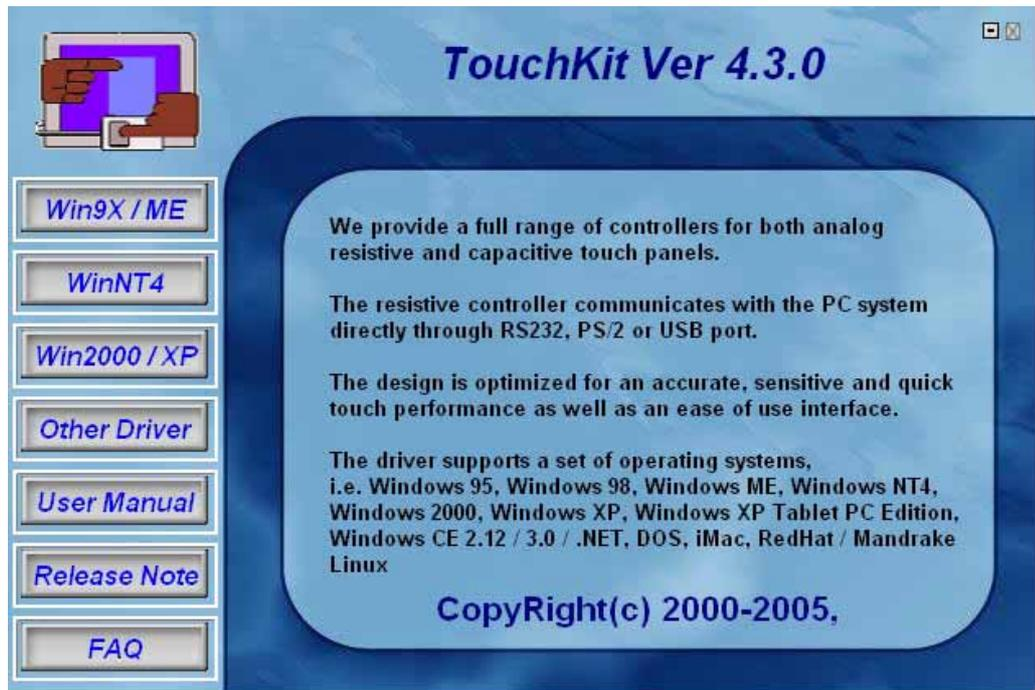

Figure C-1: Driver CD Pop Up Screen
Step 4: Once the CD drive is installed, the screen in **Figure C-1** appears.